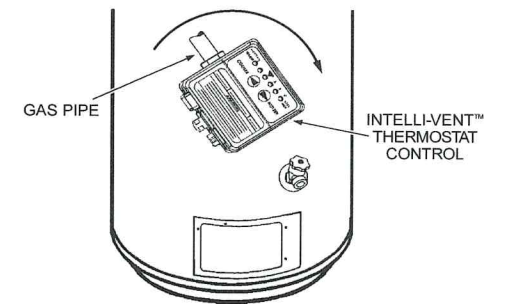

FIGURE 9.
13. Using your hand, grasp the straight pipe attached to the Intelli-vent™ Thermostat Control, (184960 Series) and rotate it clockwise until the control is tight and aligned correctly, see Figure 9.